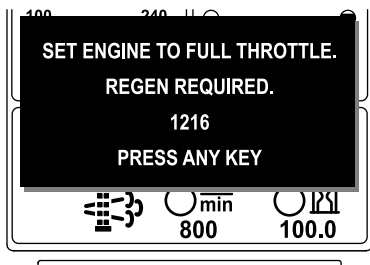

Figure 44
**Note:** If the engine exhaust temperature is too low, the InfoCenter displays ADVISORY #1216 (Figure 44) to inform you to set the engine to full throttle (high idle).